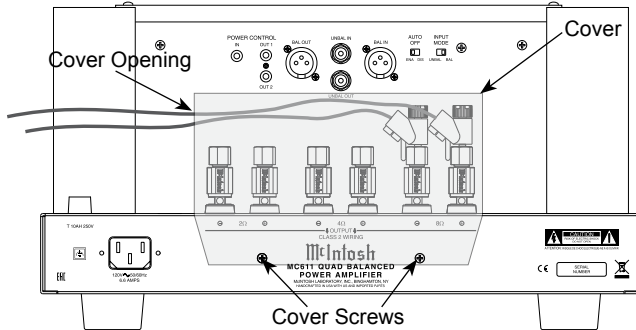

Figure 5 (Inside USA and Canada)
7. Locate the Terminal Connections Cover from the inside of the MC611 shipping carton. Insert the just prepared Loudspeaker hookup cables thru the cover opening on the right side. Refer to figure 5.
Note: The illustration in figure 5 is connections for 8Ω (ohms) Loudspeakers.
11. Attach the Terminal Connections Cover to the MC611 Rear Panel with the previously removed Screws. Refer to figure 5.